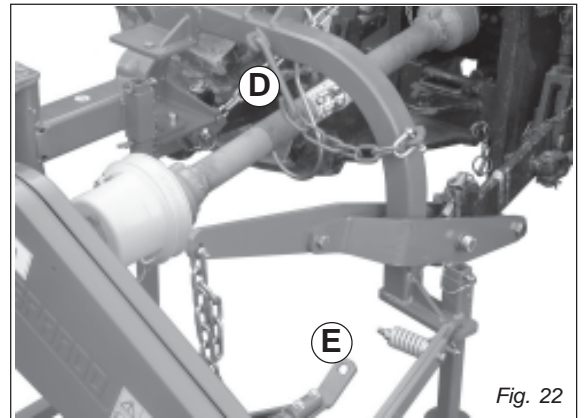

Fig. 22
- Remove safety hook (D, Fig. 22), required only for transportation, and fit it back in the slot positioned above the chassis. Reduce to the minimum length in order to hook it in (E, Fig. 22) with the sickle bar to lower.